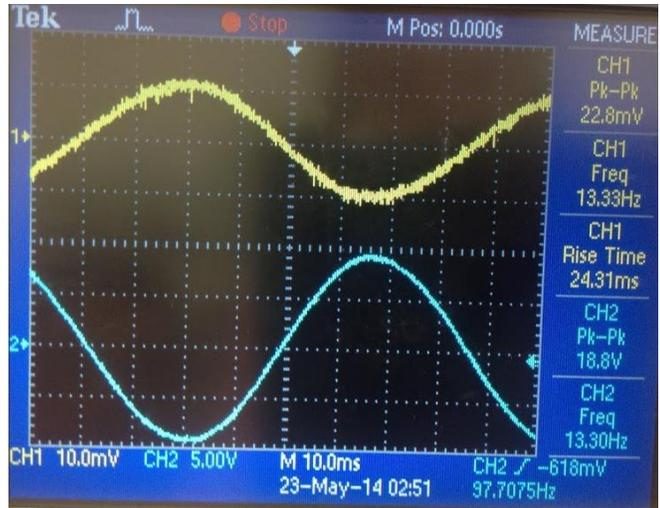

Figure 5. Midband gain reference image.
10. Find and save the oscilloscope image of the input frequency value at which the output amplitude reaches its maximum ($V_{out, max}$). Use Figure 5 as you reference. This value should be used for your midband gain calculation and it should be close to the theoretical gain value you have determined above. Calculate the actual midband gain value and compare it to the theoretical: